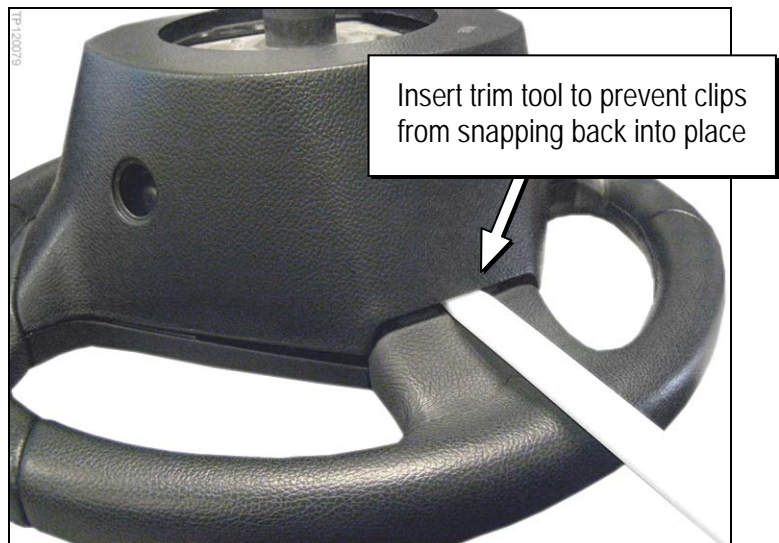

Figure 2
- Insert a plastic trim tool between the back cover and the steering wheel assembly, as shown in Figure 2.